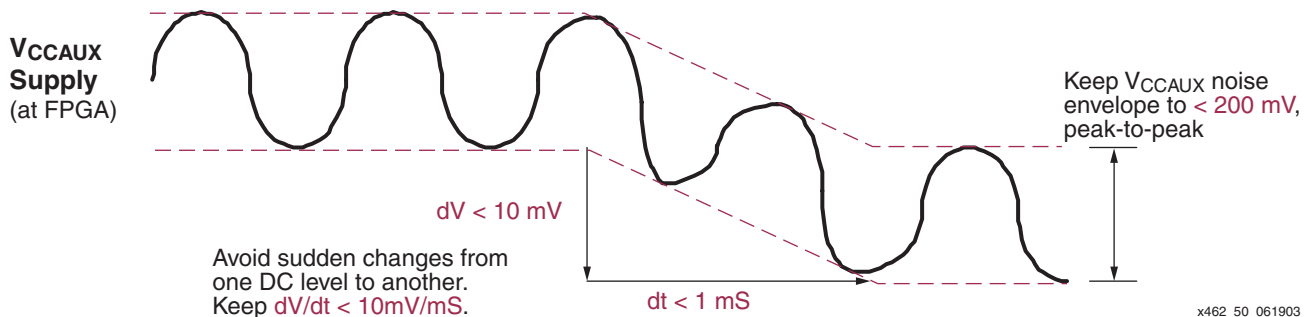

Figure 3-50: Recommended V_{CCAUX} Supply Considerations Avoid Voltage Droop
1. Limit changes on the V_{CCAUX} power supply or ground potentials to less than 10 mV total or 10 mV in any 1 ms interval, as shown in Figure 3-50. This recommendation allows the DCM to properly track out the change.
2. Limit the noise at the power supply to be within 200 mV peak-to-peak, as shown in Figure 3-50.